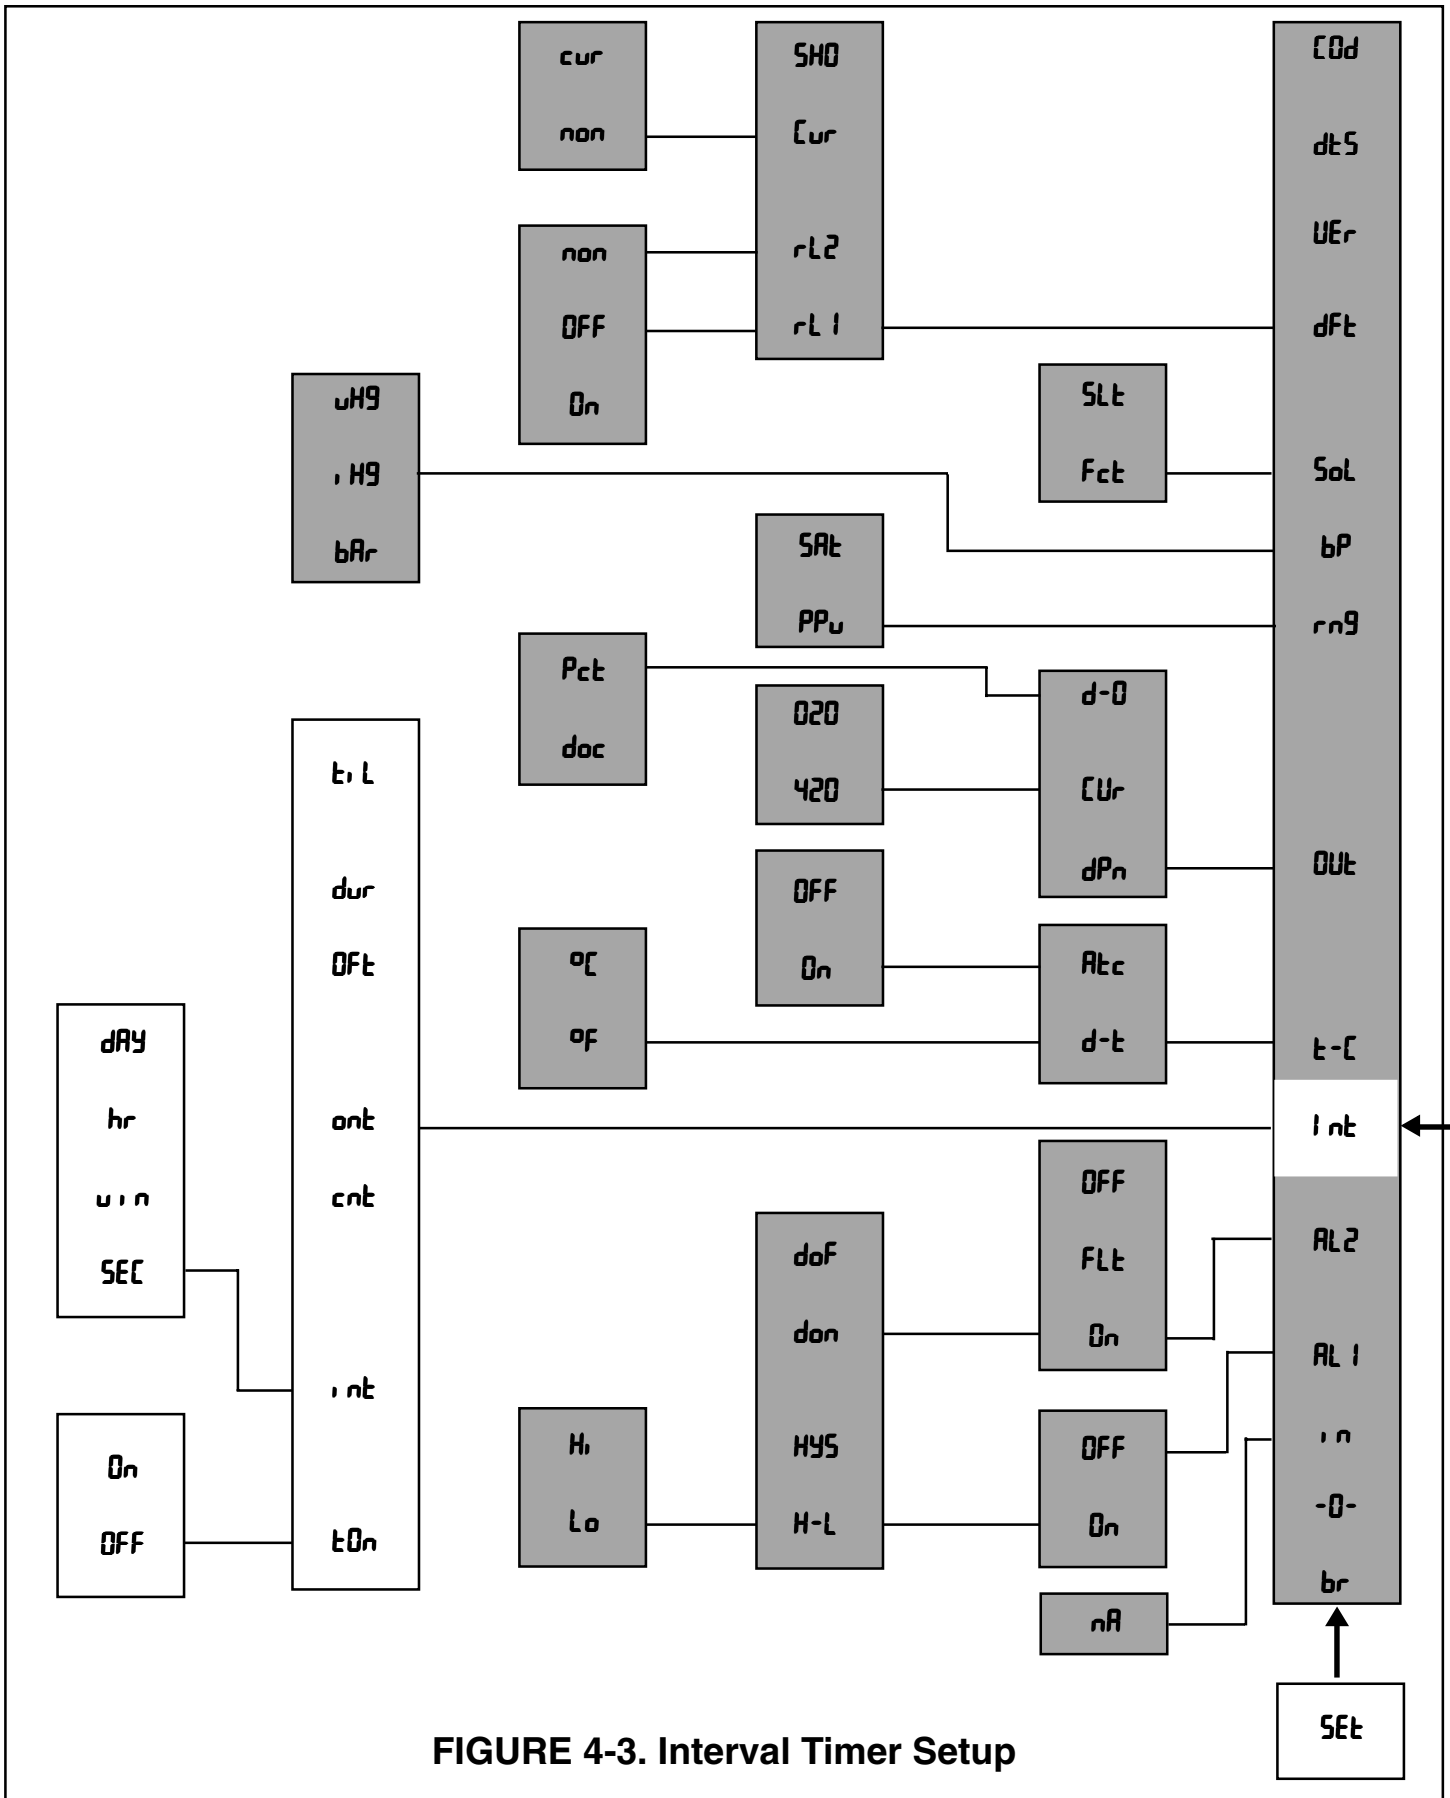

FIGURE 4-3. Interval Timer Setup
4.3.1 Interval Timer Set Up (i n t). Refer to Figure 4-3.